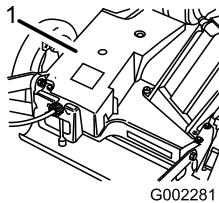

Figure 34
3. Remove the bolts that secure the belt cover (Figure 34) to the mower housing.